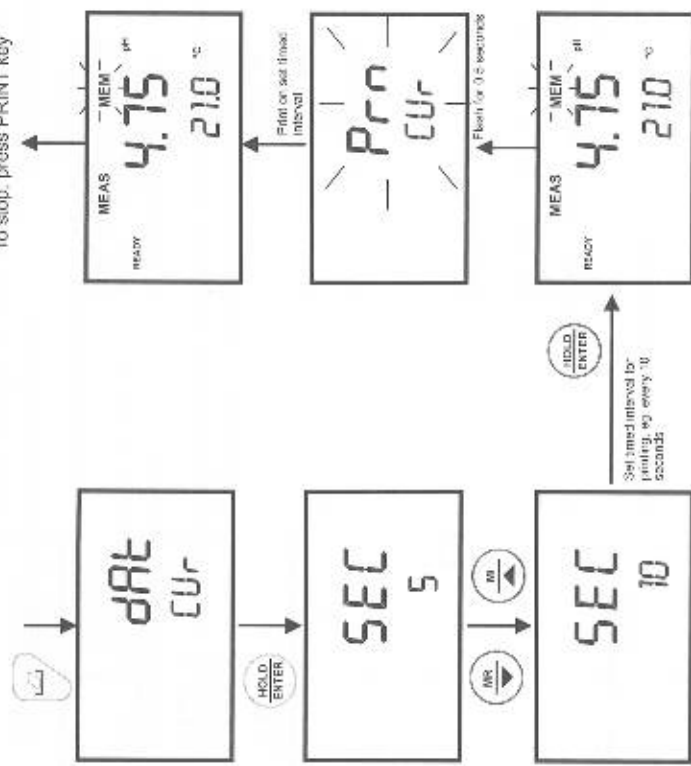

Figure 25: Print data on timed interval
- The "Sec 5" screen appears. The default value is 5 seconds time interval. See Figure 25.